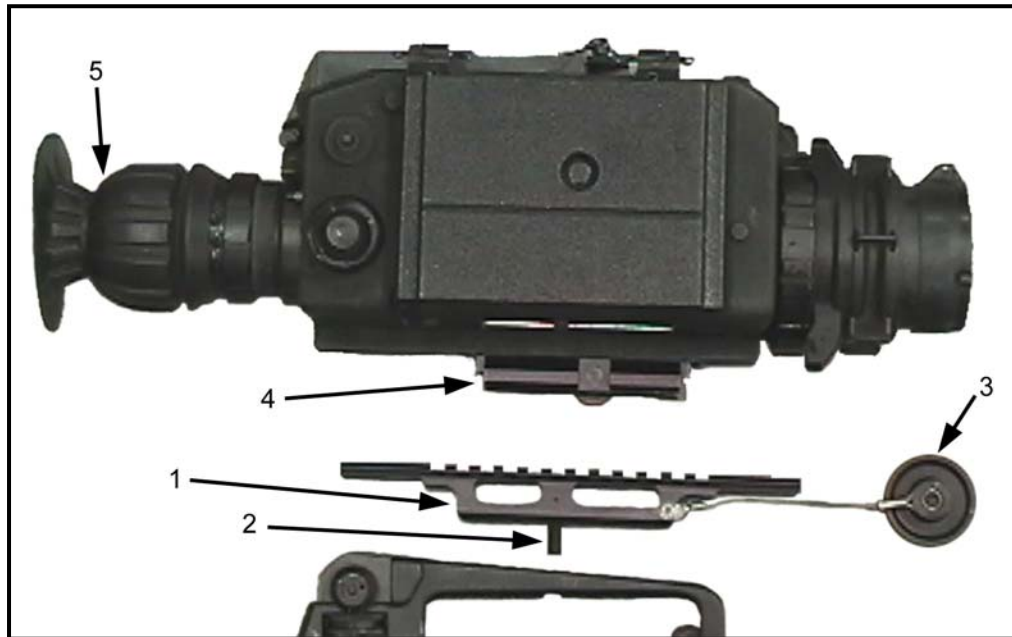

Figure 2-35. Mounting TWS on an M16A1/A2/A3.
a. **M16A1/A2/A3 Rifle** (Figure 2-35). The M16A1/A2/A3 weapon bracket (1) is a standard item in the TWS carrying case. The weapon bracket's threaded rod (2) is inserted through the hole in the carrying handle of the M16A1/A2/A3 and secured with the thumb wheel (3). The Picatinny rail grabber (4) on the bottom of the TWS is then aligned with a notch on the bracket, ensuring the TWS is positioned to accommodate an effective firing position once the eyecup (5) is depressed. Ensure the rail grabber fully rests on the bracket when mounting the TWS or the sight will not retain zero.